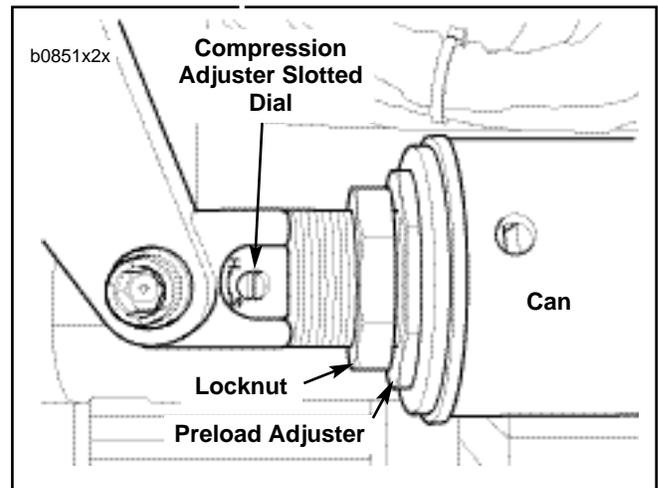

Figure 5. Preload and Compression Damping Adjustment
2. See Figure 5. To adjust shock preload, loosen the locknut and turn the preload adjuster at the end of the shock to move can towards front or rear of motorcycle.
9. See Figures 5 and 6. To adjust rear shock to maximum damping setting, use screwdriver to turn slotted dial on appropriate adjuster clockwise until it stops. This is the maximum damping setting.
10. See Figures 5 and 6. To adjust rear shock to factory recommended settings, turn dial counterclockwise from maximum damping the amounts shown in Steps 11 and 12 to align the reference marks.
11. See Figure 5. Set compression damping using the slotted dial on the shaft at the rear of the shock. New factory setting is as listed below: